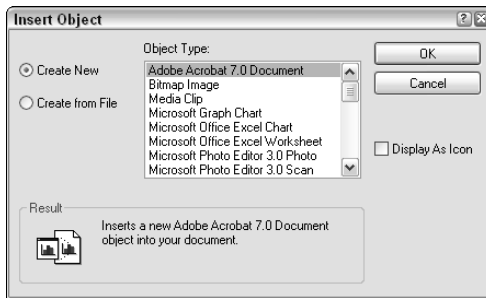

Figure 27-10: The Insert Object dialog box.
1. From your drawing, choose Insert ⇨ OLE Object to open the Insert Object dialog box, as shown in Figure 27-10. This starts the INSERTOBJ command. (The entries listed in this dialog box depend on the applications that you have installed on your computer.)